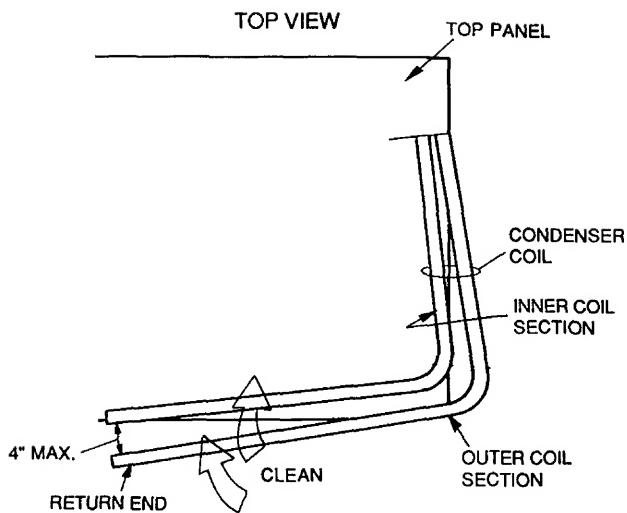

Fig. 9 – Separating Coil Sections
4. Remove device holding coil sections together at return end of condenser coil. Carefully separate the outer coil section 3 to 4 in. from the inner coil section. See Fig. 9.